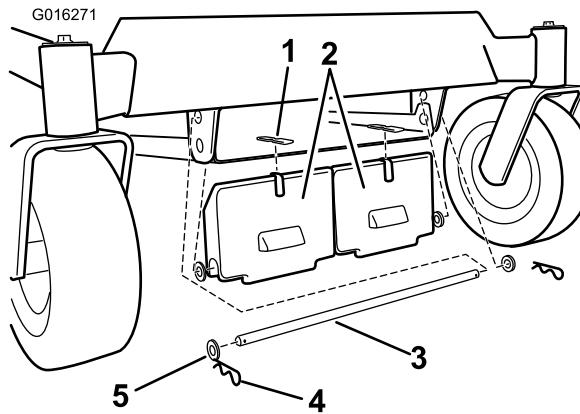

Figure 2
- Install an adhesive bumper to the weight (Figure 2).
- Install the weights to the front of the machine frame. Secure the weights with a rod, four washers, and two hairpins as shown in Figure 2.